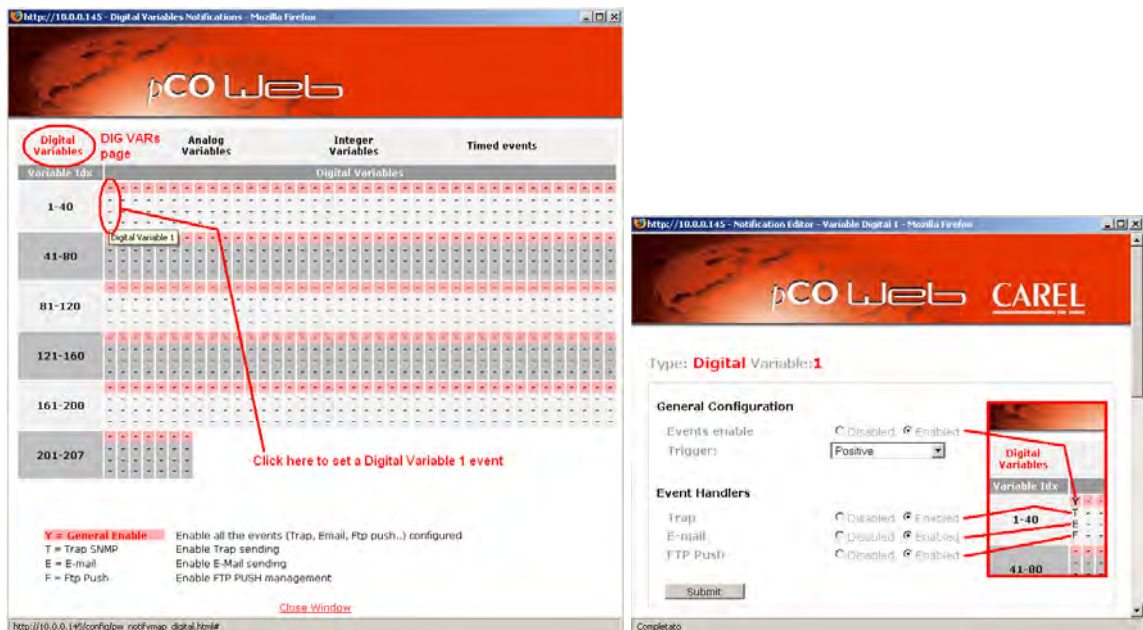

Figure 4.s - Events generated by digital variables
- TOP SECTION – COMMON SETTINGS: **General Configuration** and **Event Handlers** (Figure 4.s - right - on page 25)